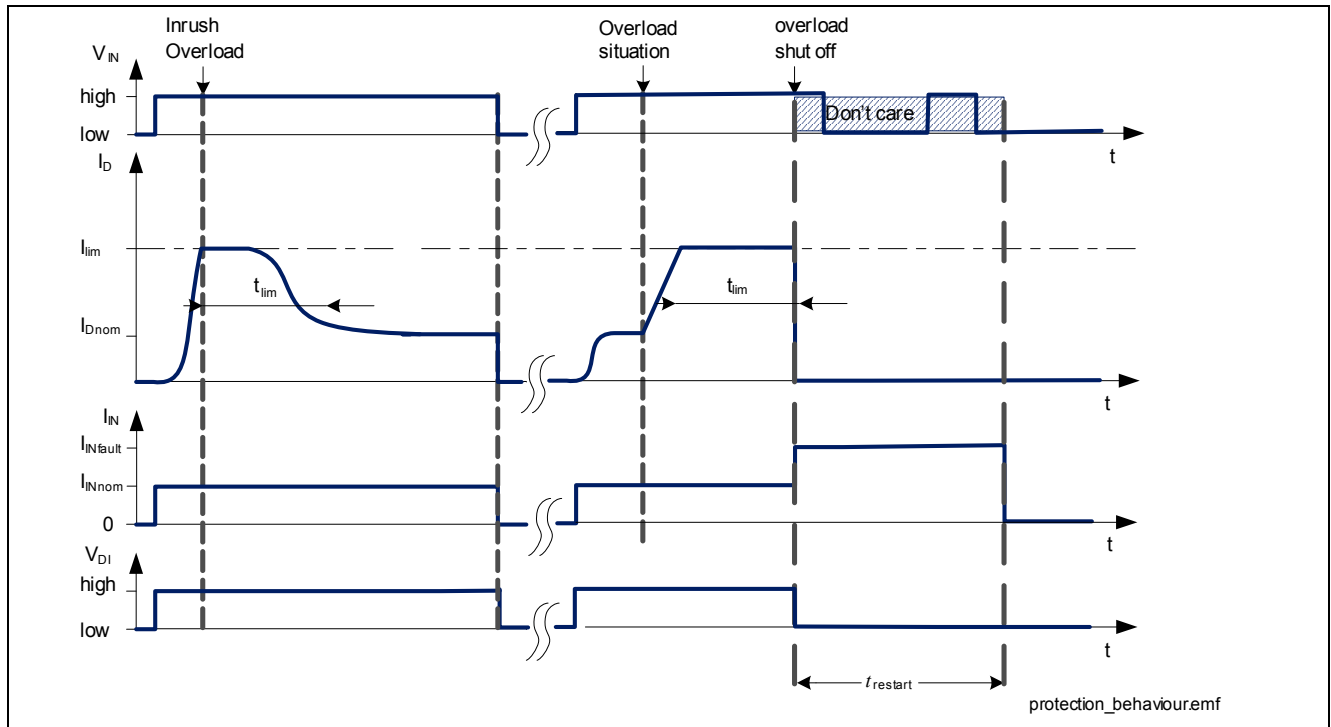

Figure 18 Short Circuit during On State, Typical Behavior for Ohmic Loads
**Figure 18** shows the behavior mentioned above. In this example first a shorted load occurs which causes the device to limit the current. The device stays on, because the load current returns to normal condition before  $t_{restart}$ . In the second switch on, the short circuit is permanent and the device switches OFF after maximum limiting time, stays OFF for the blanking time regardless of the input pin condition and then stays OFF according to the IN pin low condition.